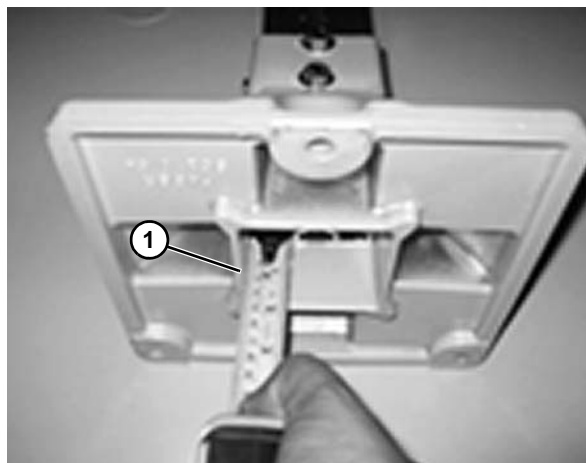

Figure 12
3. Raise the beam from the bottom of the foot approximately 40-50 mm (**Figure 12, item 1**), to allow for height adjustment later in the assembly.